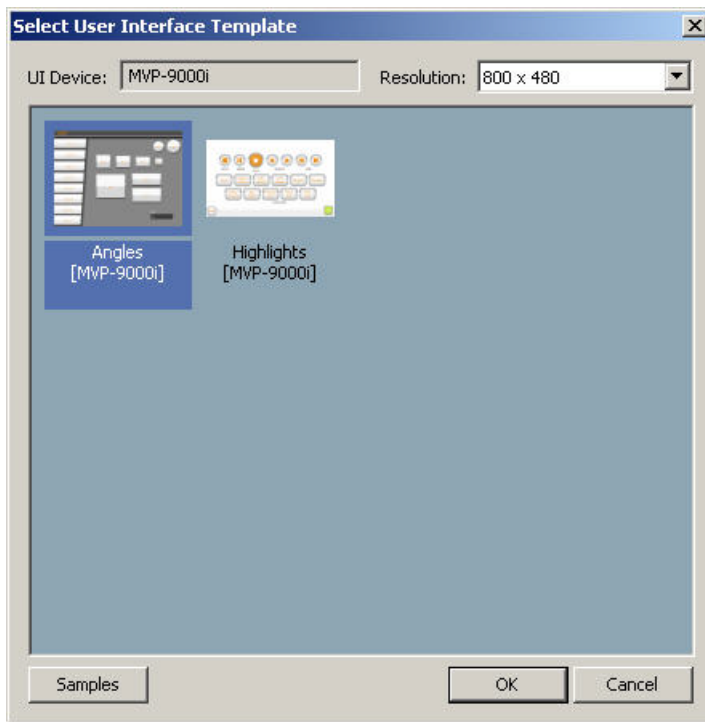

FIG. 178 Select User Interface Template dialog
3. Click Browse to open the *Select User Interface Template* dialog, where you can browse thumbnails of the installed templates (FIG. 178).